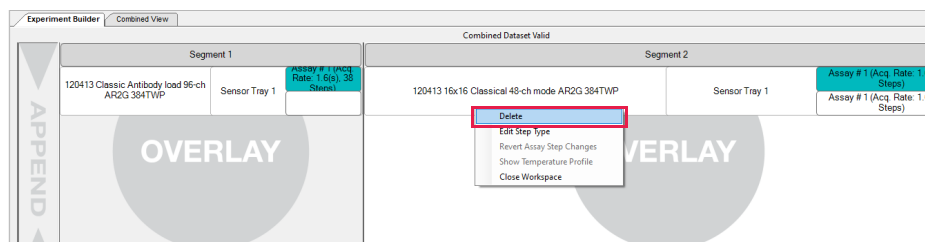

Figure 2-35: Deleting File.
4. If you want to remove files, right click the **Experiment Name, Sensor Tray or Assay** box for the file you want to remove and select **Delete** (Figure 2-35).